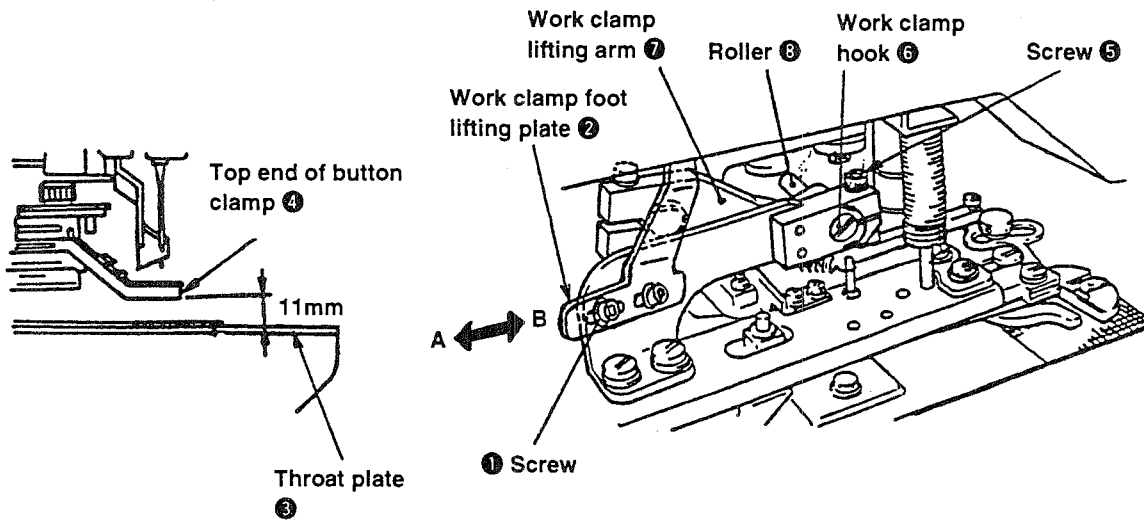
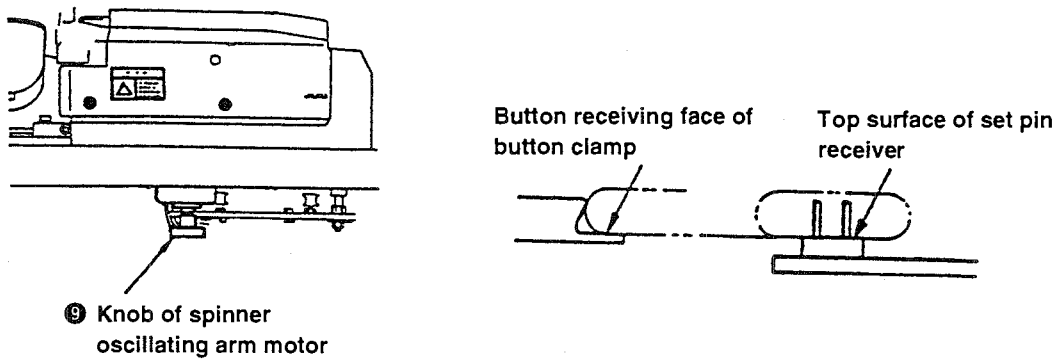

Fig. 1
Fig. 2
| <p>(1) Select the pattern No. 99 using the operation panel.</p> <p>(2) Press the [Ready] key. Then the button clamp will go up and come to the position of the origin.</p> <p>(3) Press again the [Ready] key to let the sewing LED go out.</p> <p>(4) Loosen two screws ①, and move work clamp foot lifting plate ② back and forth in the direction of arrow to adjust so that the top end of button clamp ④ is 11 mm above throat plate ③. Move work clamp foot lifting plate ② in direction A to decrease the lifting amount, and move it in direction B to increase the lifting amount. (Fig. 1)</p> <p>(5) Turn knob ⑨ of the spinner oscillating arm motor, and confirm that the button receiving face of button clamp is almost flush with the top surface of set pin receiver. (Fig. 2)</p> <p>(6) Turn knob ⑨ of the spinner oscillating arm motor, and when work clamp lifting arm ⑦ has stopped its lifting once, loosen screw ⑤ and turn work clamp hook ⑥ which has an eccentric shaft to adjust so that a clearance of 0 to 0.5 mm is provided between roller ⑧ and work clamp lifting arm ⑦. (Figures.1 and 3)</p> <p>(7) After the adjustment, check that the buttons are securely supplied to the button clamp.</p> | <ul style="list-style-type: none"> <li>• There is a case that the lifting amount of the button clamp may be more or less than the standard adjustment value in accordance with the shape of button.</li> </ul> |
| <ol style="list-style-type: none"> <li>(1) Turn the knob of spinner oscillating arm motor until screw ① of the worm gear faces to the front. (Fig. 1)</li> <li>(2) Loosen sensor dog setscrew ④.</li> <li>(3) Turn the sensor dog so that the upper face of switch ③ is flush with the lower part of the recess of sensor dog ④. (Fig. 2)</li> <li>(4) Bring sensor dog ④ to the center of the slit of switch ①. (Fig. 3)</li> <li>(5) Tighten sensor dog setscrew ④.</li> <li>(6) When the adjustment is completed, turn the knob of spinner oscillating arm motor to return the button carrier to the position of origin.</li> </ol> |                                |